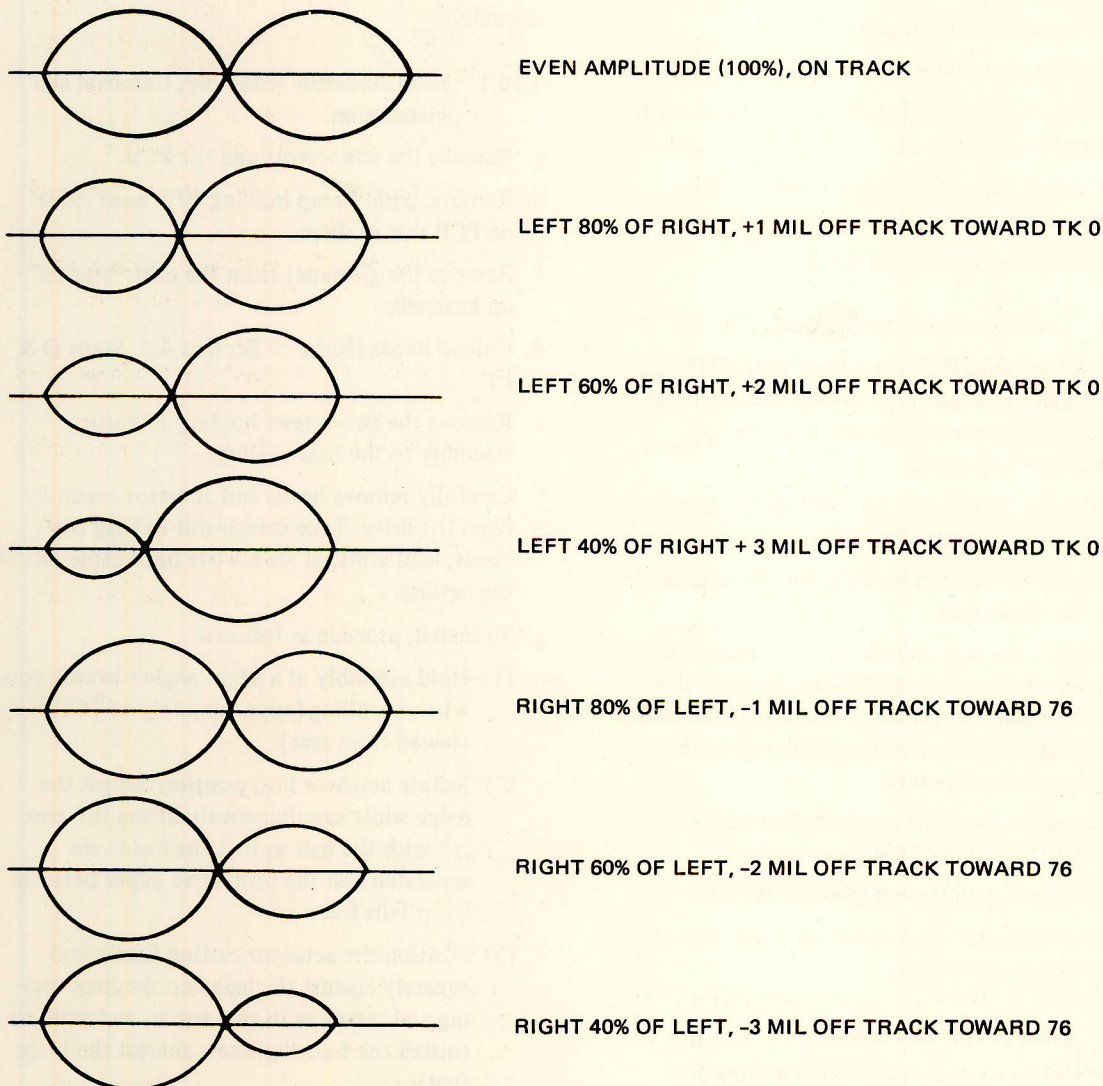

FIGURE 11 HEAD RADIAL ALIGNMENT
- e. The amplitude of the two lobes must be within 70% of each other. If the lobes do not fall within this specification continue on with the procedure (Refer to Figure 11).